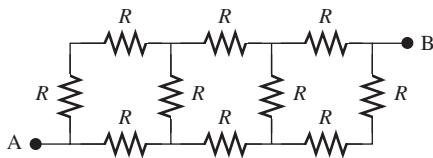

FIGURE P3.15 Circuit for Problem 3.15.
- 3.15 (H)*** Each segment in Figure P3.15 represents a resistor R . Find R_{AB} , that is, the resistance between terminals A and B. (*Hint:* Let a current source I connect terminals A and B, and find the current through each resistor by symmetry of the circuit.)